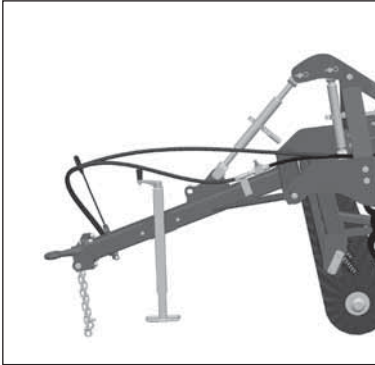

Fig 2
- 3 Locate jack stand in transport position, if fitted. Refer Fig 2.